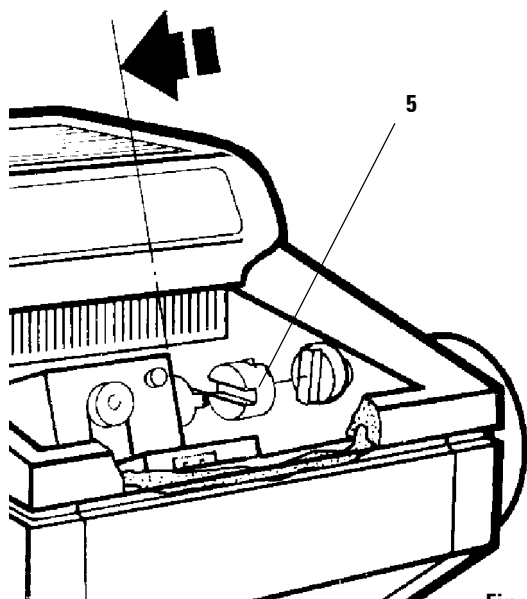

Fig. 45.2
- Apply a drop of oil to the plastic coupling (5, Fig. 45.2).
- Lubricate the specimen cylinder (1):